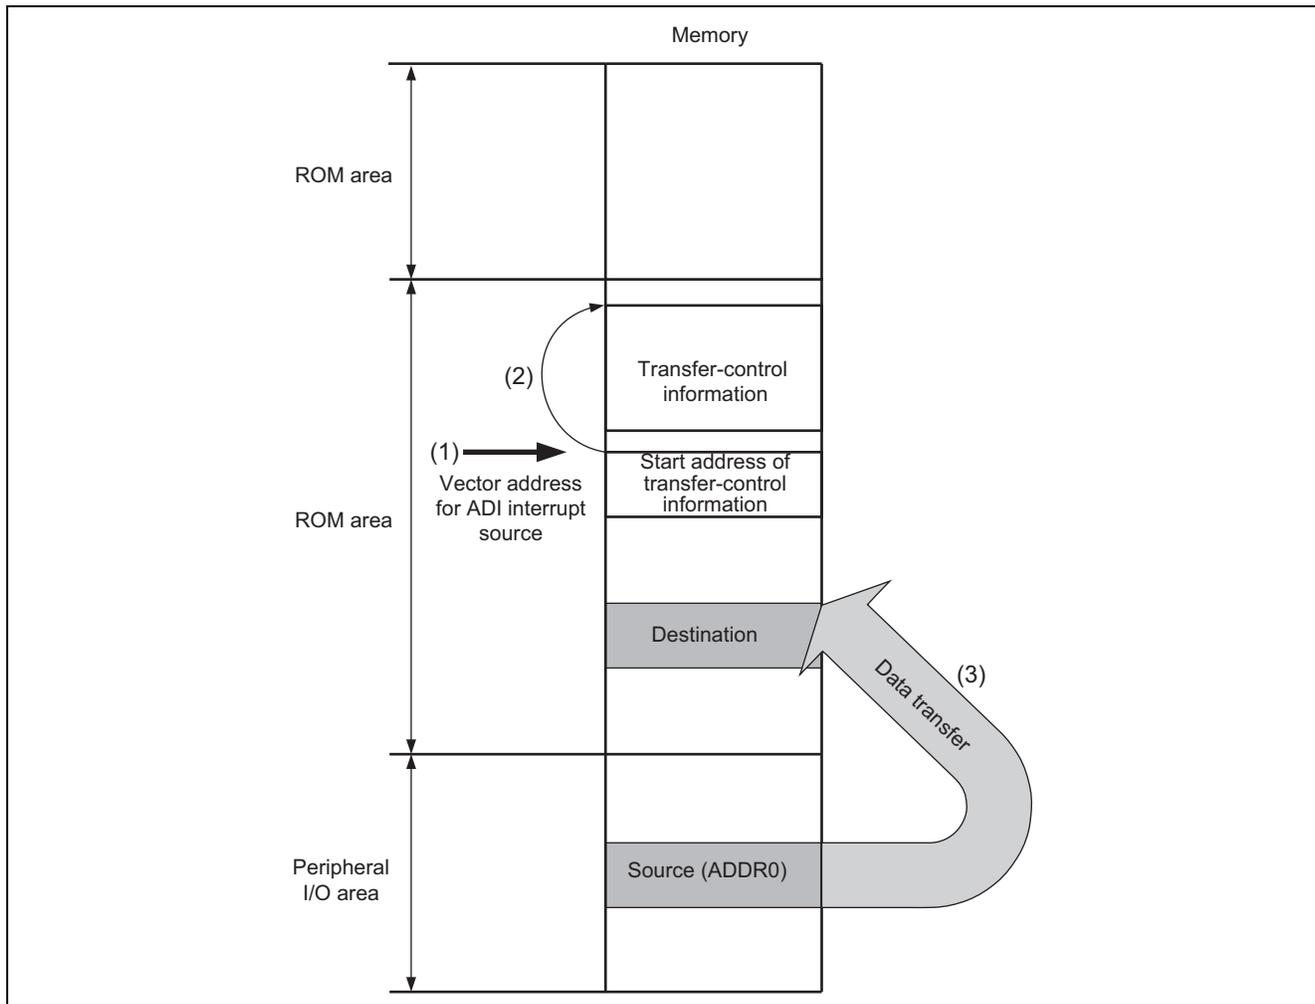

Figure 6 Flow of Data in Memory
The flow of data in memory for the operations shown in steps (5) to (7) of table 3 is illustrated in figure 6 and described in table 4.
Table 4 Description of Figure 6